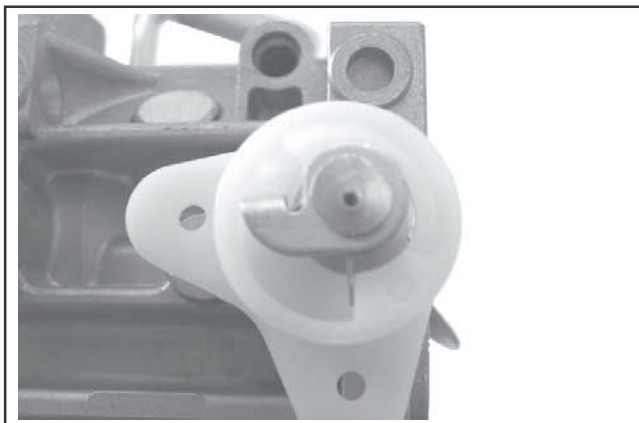

Figure 5-29. Choke Details.
4. Note the position of the spring legs and the choke plate for correct reassembly later. See Figure 5-29. Remove the two screws attaching the choke plate to the choke shaft. Pull the shaft out of the carburetor body, note the preload of spring and discard the removed parts.
10. Slide the choke shaft and spring into the carburetor. Pivot (preload) the shaft 3/4 turn counterclockwise with the inner leg of the spring against the formed stop within the choke lever as originally assembled. See Figures 5-29 and 5-33. The outer leg of the spring must still be behind the formed stop of the choke shaft.